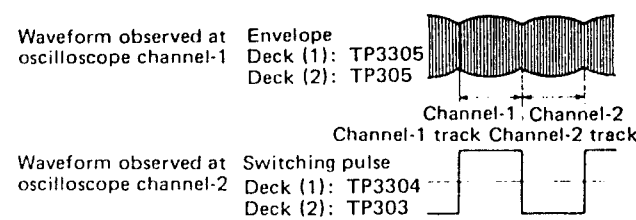

Figure 26.
- 2) Trigger with a switching pulse and observe the envelope (figure 26).